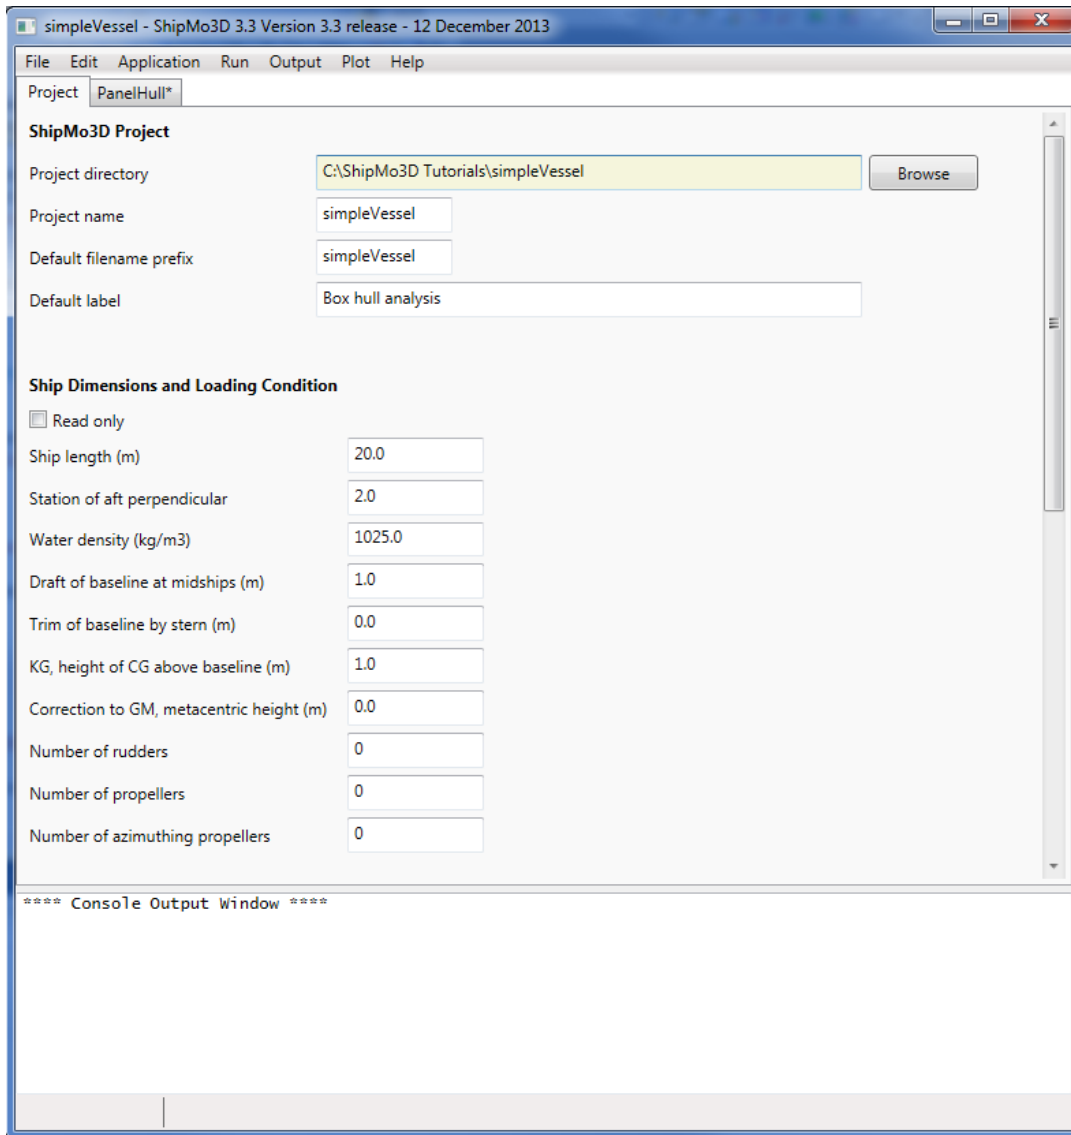

Figure 8: The vessel global parameters.
- ☞ The list of parameters should appear as in Figure 8.